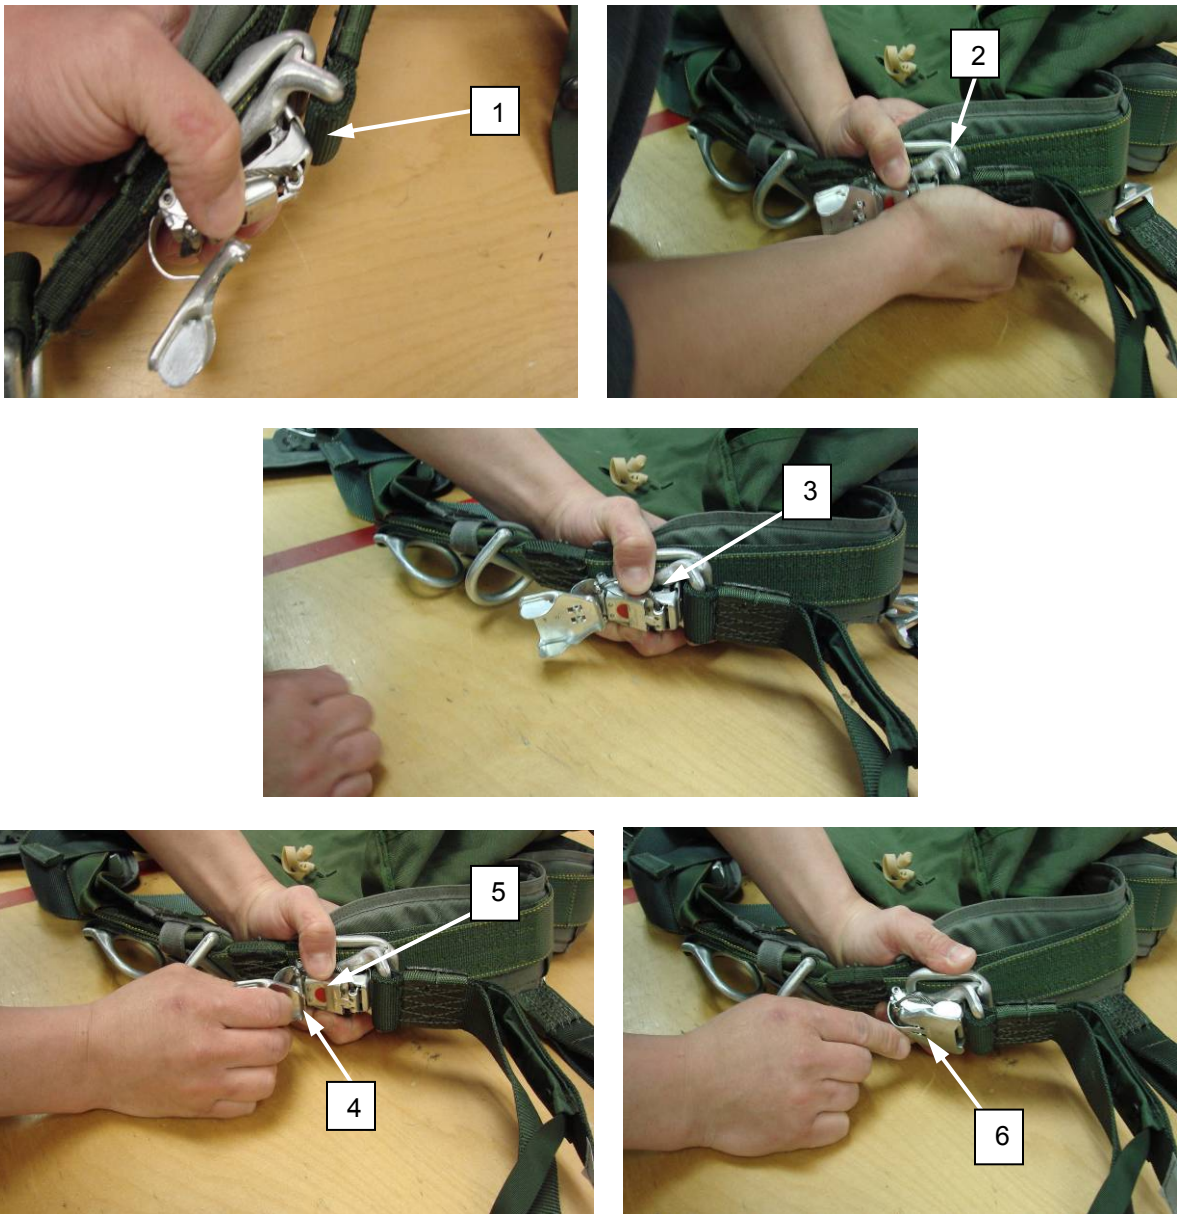

Figure 56. Secure Riser Assemblies to Harness Assembly.
5. Operate the latch and check for smooth operation. Close the latch (Figure 56, Item 1) and ensure the latch is securely locked (Figure 56, Item 2).
6. Position the cable loop (Figure 56, Item 3).
7. Fit the heel of the safety clip (Figure 56, Item 4) into the slot of the latch (Figure 56, Item 5).
8. Close the safety clip (Figure 56, Item 6).